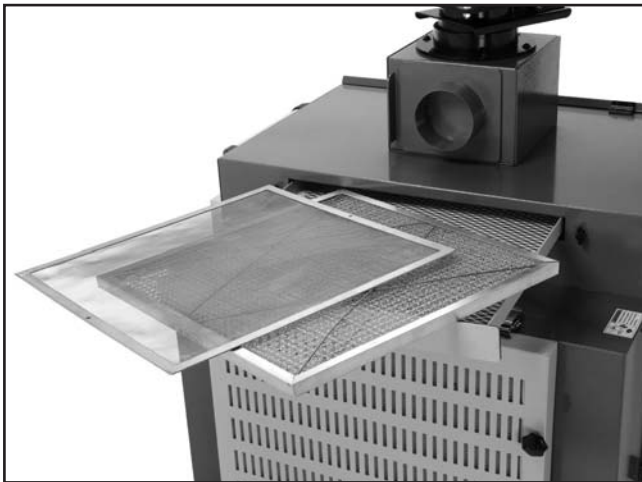

Figure 25. Slag-screen.
2. Put on your respirator, unlock and remove the slag drawer, and then the screen (**Figure 25**).